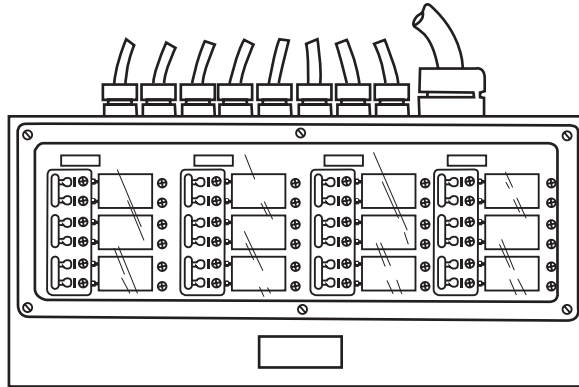

Figure 2. 24V Radio Room DC Electronics Distribution Panel
- b. 24V radio room DC electronics distribution panel (figure 2).